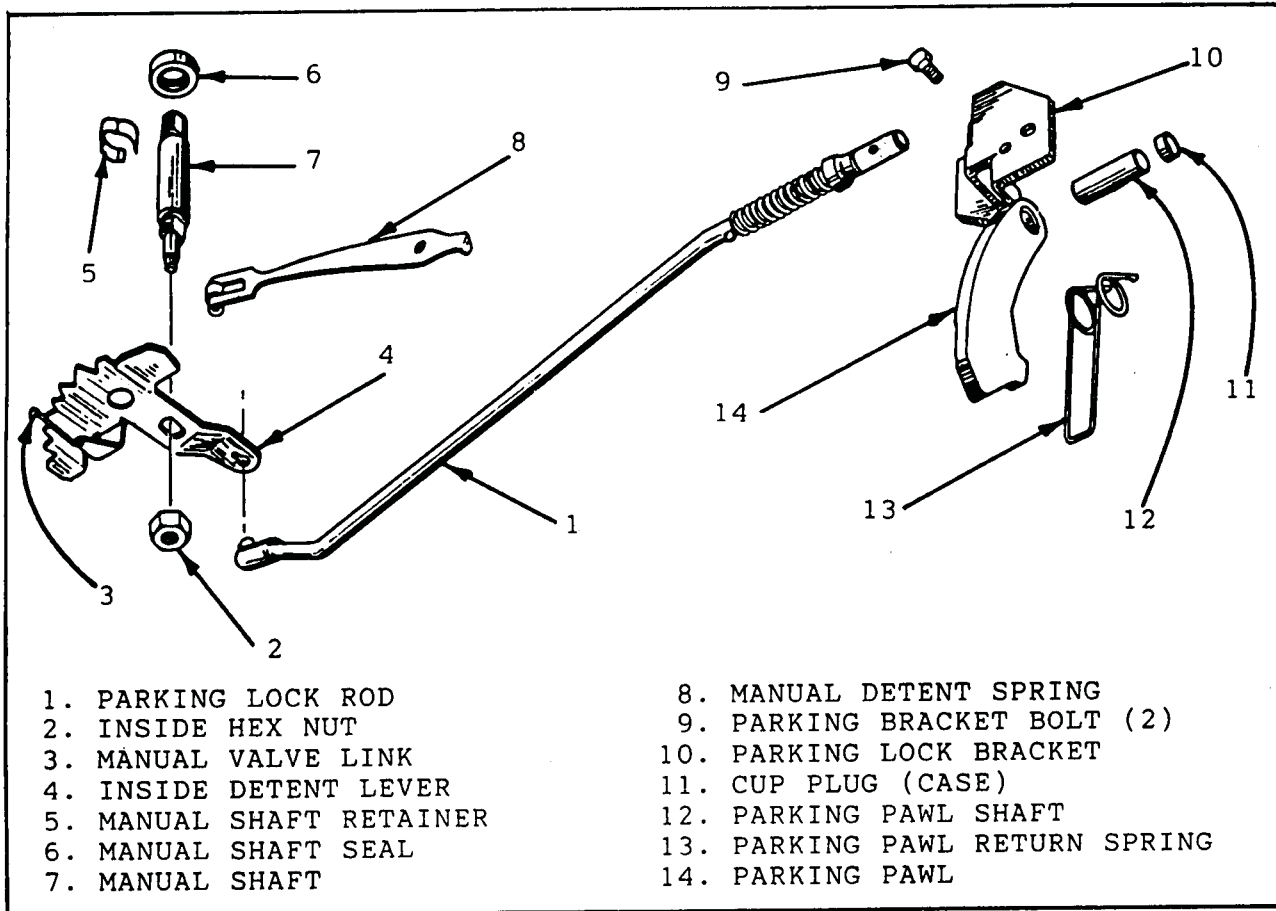

Figure 69
6. Remove inside detent lever and the parking lock rod (Figure 69).
10. Refer to Figures 69 and 70.
6. Install manual shaft retainer onto the manual shaft by snapping into place. Refer to Figure 69.
2. Install parking pawl and parking pawl return spring into case, referring to Figures 69 and 70.